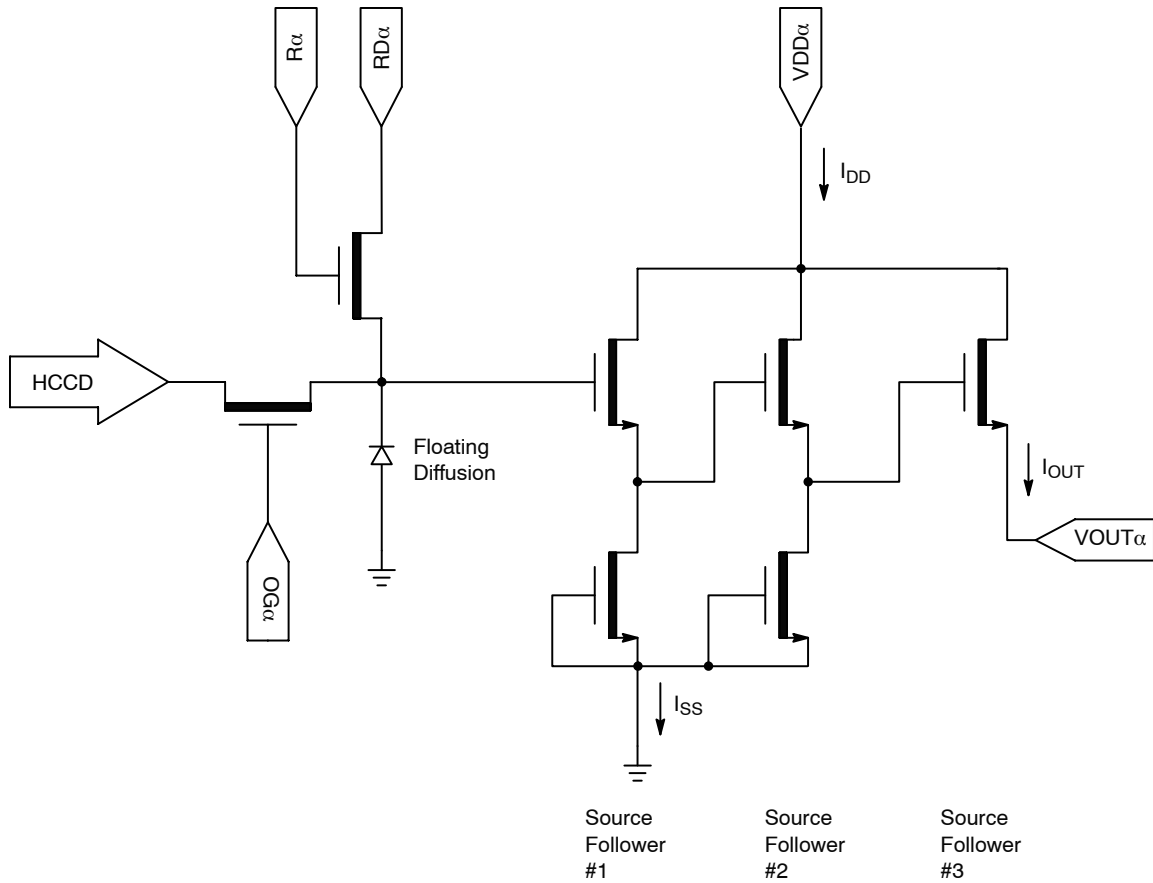

Figure 18. Output Amplifier
2. The maximum DC current is for one output. $I_{DD} = I_{OUT} + I_{SS}$. See Figure 18.